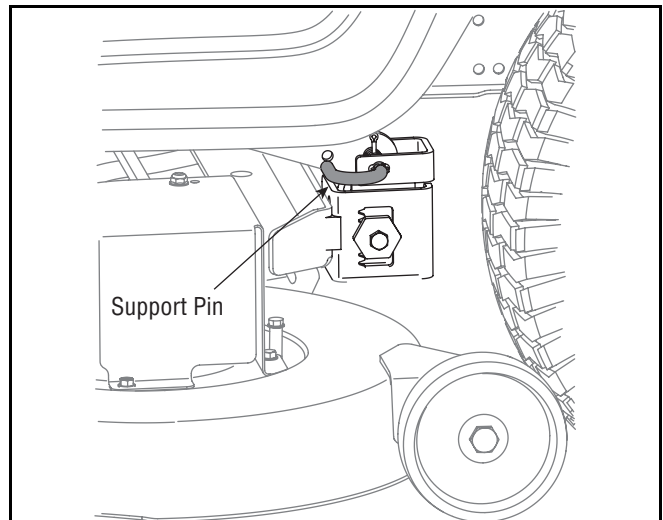

Figure 23
- Looking at the cutting deck from the left side of the tractor, locate the deck support pin on the rear left side of deck. See Figure 23.